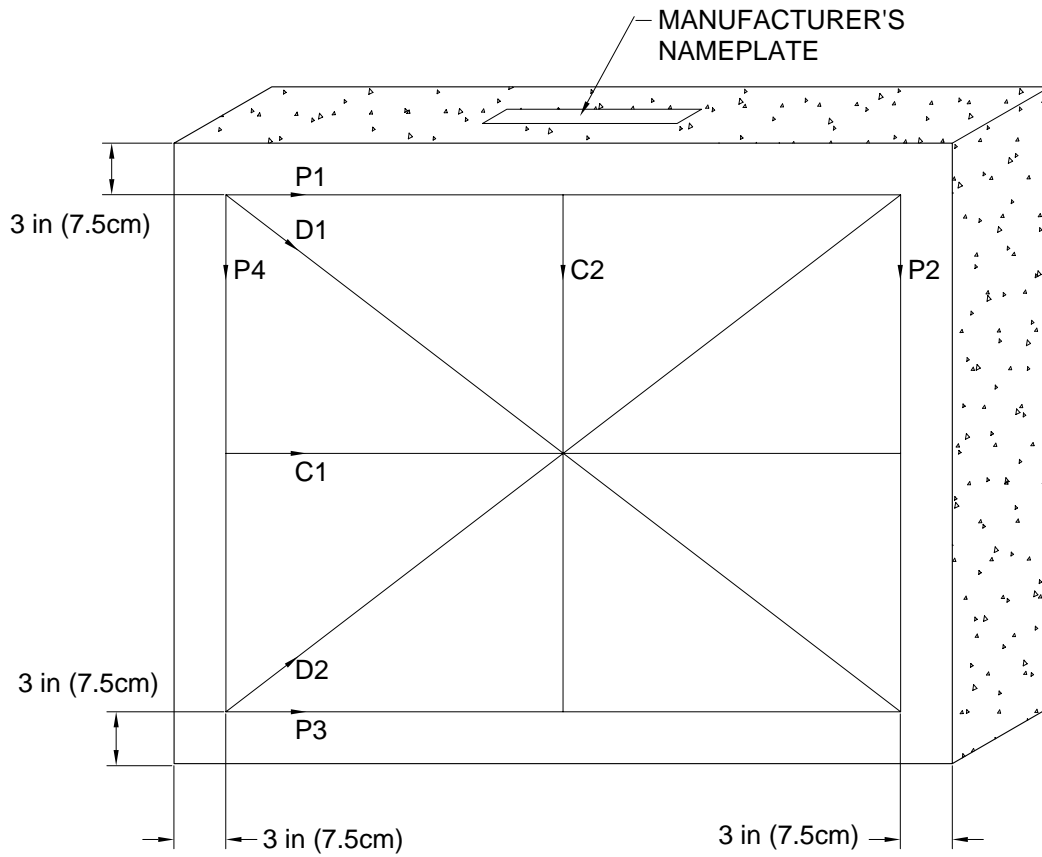

FIG. 15-3 GRID MAP OF SURFACE
1. To measure flatness of a surface you will have to draw a "grid" on it and make measurements along each edge and diagonal of this grid. A typical grid map is shown in Fig. 15-3.
2. Draw a "map" of the surface plate. The map should be drawn on a sheet of paper with highlights located on the surface plate itself with a lead pencil. Take care not to put markings directly on the grid lines, since the equipment must be free to slide on the granite surface along these lines. The grid system must contain the eight basic lines, as shown in Fig. 15-3.